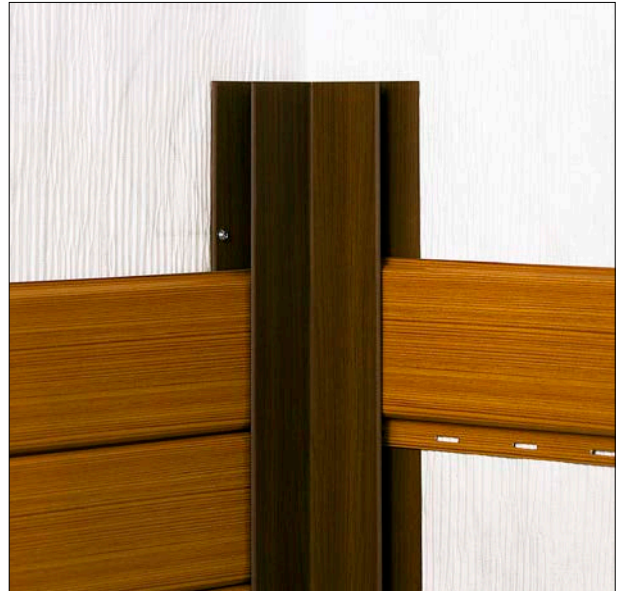

Fig.57
Step 2: Set the standard panels in place and fasten (Fig.57).